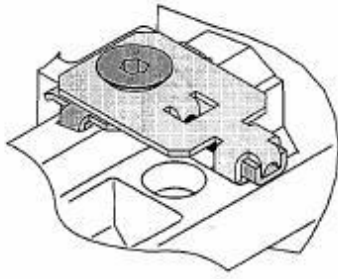

Figure 4 - CSM Clamp
- 6.06** Remove the Central Strength Member (CSM) clamps aligned with the cable ports to be used using the provided Allen wrench and set the clamp plates and screw aside for later installation. See **Photo 3 - CSM Clamp Removal** and **Figure 4**.